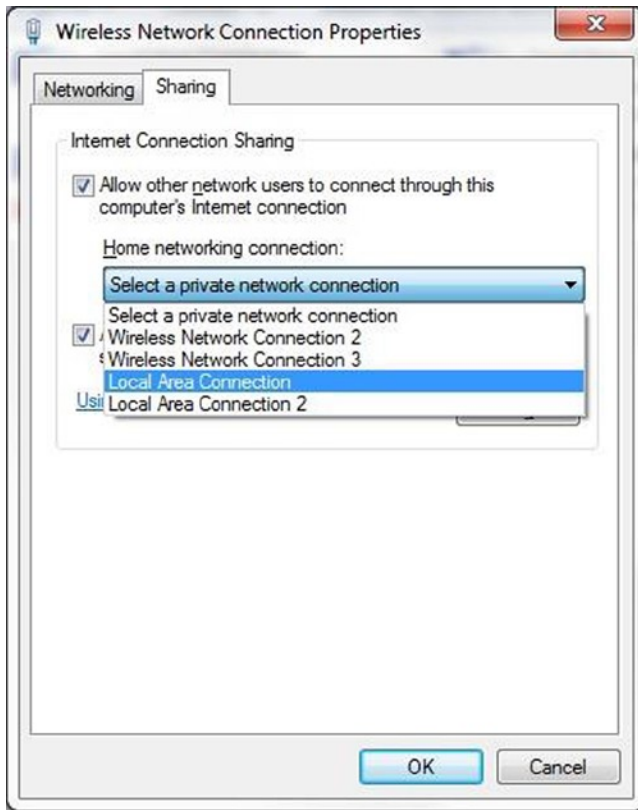

Figure 5-9. Sharing the Internet connection
7. To share the Internet connection, access your adapters again by choosing Control Panel ► Network and Internet ► Network and Sharing Center and clicking Change Adapter Settings. But now, right-click in the adapter of your computer that provides Internet access to you and select Properties. Then click in the Sharing tab and check the option to share the Internet in the listbox. Figure 5-9 shows an example that uses a wireless adapter to access the Internet and a Local Area Connection for Intel Galileo.